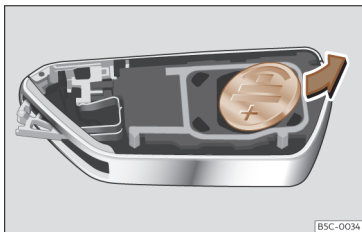

Fig. 67 Vehicle key: removing the battery.
- Remove the battery from the compartment with a suitable fine object >>> **Fig. 67**.
- Insert the new battery and press it into the battery compartment >>> ③.